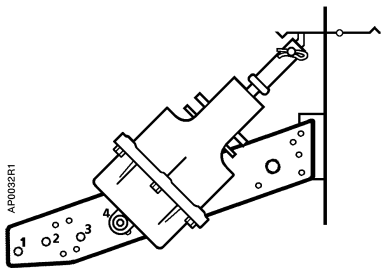

Figure 9. Frame Mounting,
4. Attach Rocker 333-034 to blade in proper position for normally open or normally closed damper using 2 nuts, 041-230K, and 2 screws, 030-510J. See Figure 9 and Figure 10.
- a. Normally Open damper: attach the plate to the lug. Place the pivot post in Hole 4. See Figure 9.